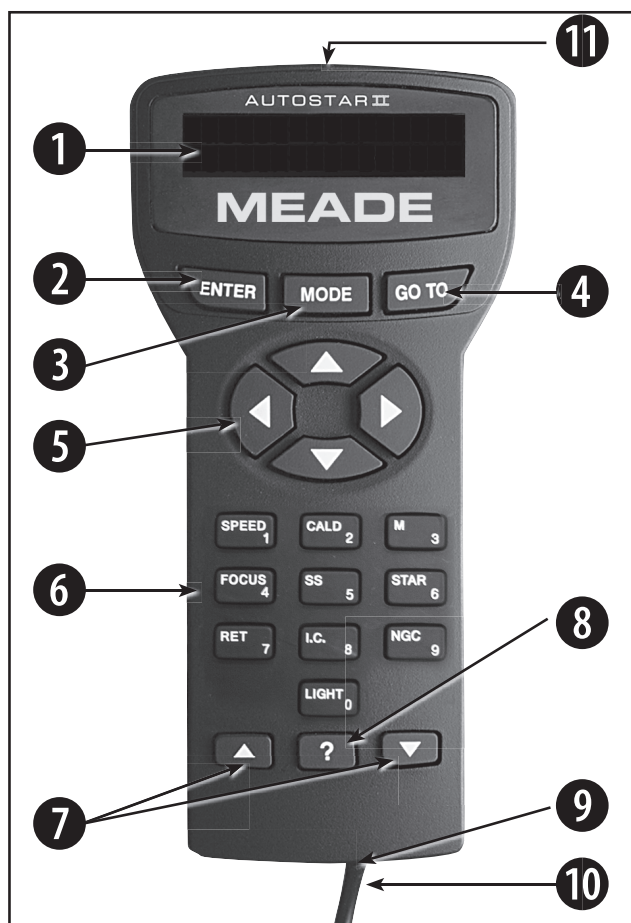

Figure 2: The AutoStar II handbox
**Note:** If MODE is pressed and held for two seconds or more, information about the telescope’s status displays. When the status displays, press the Scroll keys (**Fig. 2, 7**) to display the following information:
Additionally, use the Arrow keys to move the cursor across the display: Use the Right or Left Arrow key (**Fig. 2, 5**) to move the cursor from one number to the next in the display.
⑨ **Coil Cord Port:** Plug one end of the AutoStar II coil cord (Pg. 14, Fig. 2, 10) into this port located at the bottom of the AutoStar II handbox.